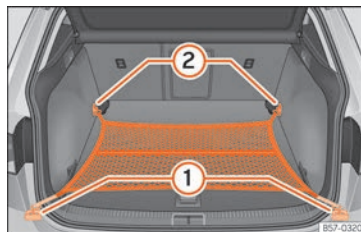

Fig. 178 In the boot: net bag hooked up at floor level.
- As applicable, lift the front fastening rings » » Fig. 178 ②.
- Secure the net hooks to the fastening rings ② » » ⚠. The bag zip should be facing upwards.
- Secure the net hooks to the fastening rings ①.